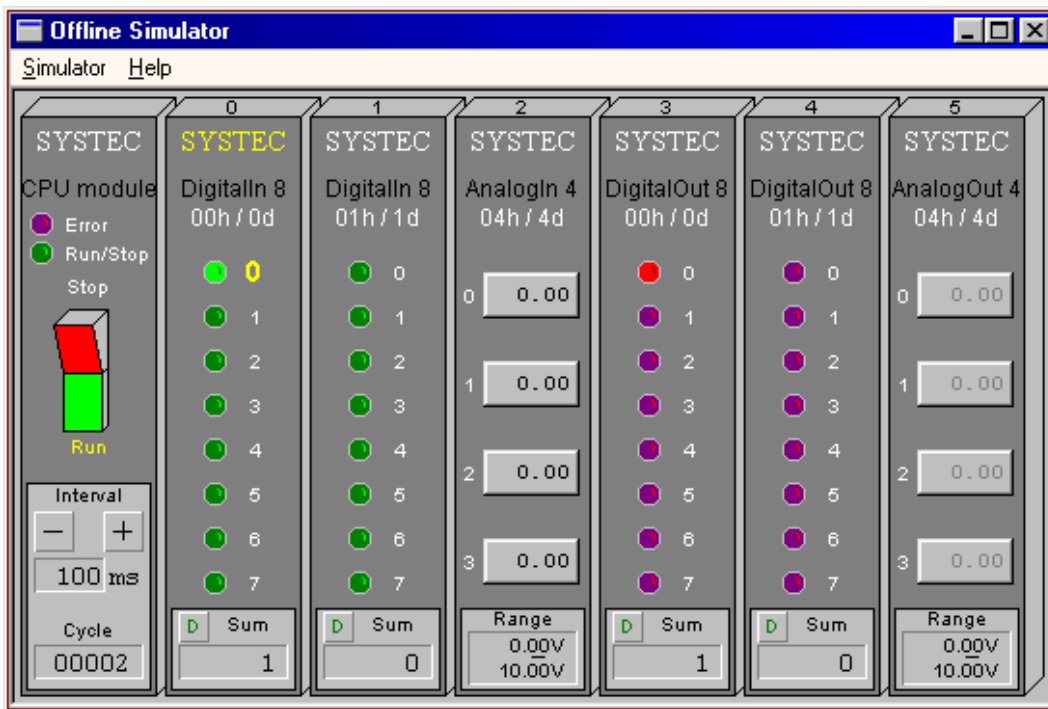

Figure 13: PLC Simulator
**Run/Stop Switch:** The Run/Stop switch is used to stop or resume program execution. The desired state can be selected by clicking on the corresponding side of the Run/Stop switch symbol (*see Figure 13*). As an alternative, the "S" (Stop) and "R" (Run) keys can be used.
**Cycle Interval:** Program execution speed can be modified by changing the cycle interval. This allows for easier program analysis. The cycle interval can be altered by clicking on the applicable "+" and "-" buttons in the CPU module section (*see Figure 13*). The "+" (slower) and the "-" keys (faster) can also be used.
**Display Mode:** The digital input value can be displayed in either decimal or hexadecimal notation. The button next to the "Sum" label (*see Figure 13*) shows the current display mode. The letter "D" indicates that decimal notation is used, while "H" shows hexadecimal values. The display mode is altered by clicking this button or by pressing the "X" key.